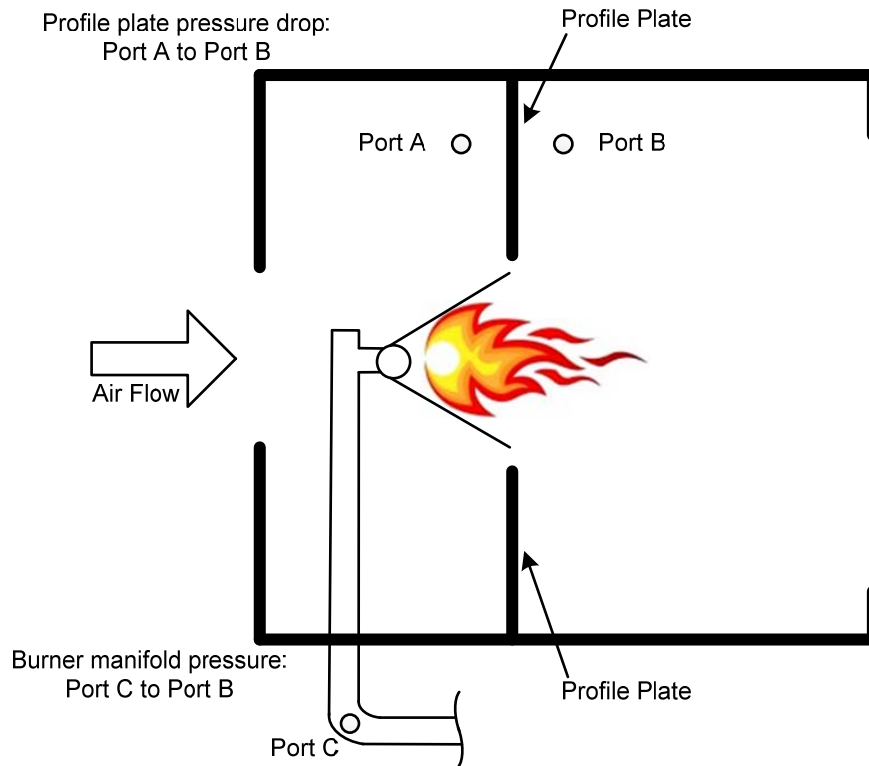

Figure 6-6
9. Use a pressure measuring device capable of measuring pressures up to 13" WC and rated for use with combustible gasses. Attach this between port C and port B shown in Figure 6-6. Port C should be connected to the burner manifold and port B should be downstream of the profile plate.